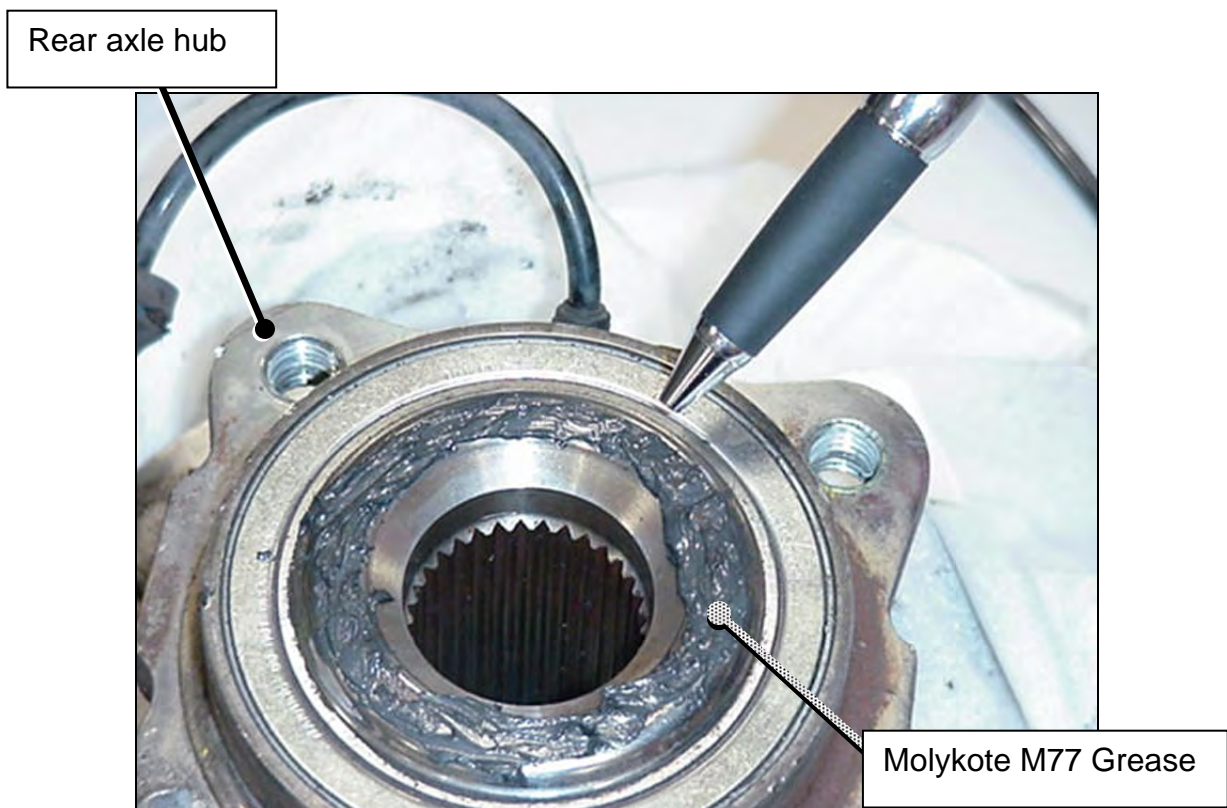

Figure 1 (Hub removal not necessary)
7. Apply a minimum of 1.0g of Molykote M77 Grease (P/N 44003-7S000) in an even coating to the bearing surface where it contacts the rear axle (see Figure 1).
NOTE: Figure 1 shows the hub removed. This is done for easier viewing only. It is not necessary to remove the hub.